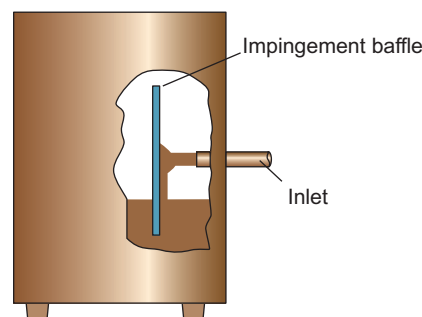

Figure 15.13 Baffle.
- **Baffle**—a metal plate, placed at strategic positions inside a vessel, that alters the flow of the material in the vessel and can help to facilitate mixing. Figure 15.13 shows an example of a baffle.